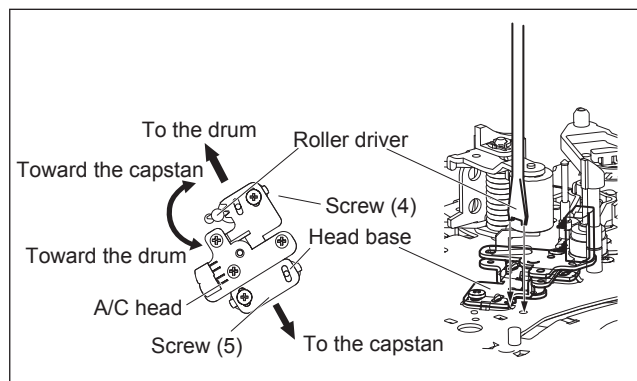

Fig.4-2e
- (1) Play back the alignment tape (A1).
- (2) Apply the external trigger signal to D.FF (E), to observe the V.PB FM waveform at the measuring point (D).
- (3) Set the VCR to the manual tracking mode.
- (4) Loosen the screws (4) and (5), then set the Roller driver to the innermost projected part of the A/C head. (See Fig. 4-2e.)
- (5) Rotate the roller driver so that the A/C head comes closest to the capstan. From there, move the A/C head back gradually toward the drum until the point where the FM waveform is maximized for the second time, and then tighten the screws (4) and (5) temporarily.
- (6) Play an alignment tape (A2) and set to the manual-tracking mode.
- (7) Fine-adjust A/C head base position to maximize the FM waveform, and then tighten the screws (4) and (5) firmly.
- (8) Play alignment tapes (A1) and (A2) and confirm that the FM waveforms are maximized when the tracking is at the center position.